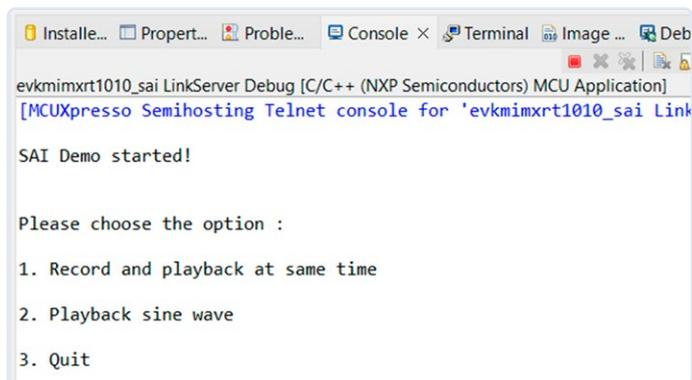

Figure 6: The menu.
- > You should see the menu displayed (**Figure 6**). Choose option 2 to hear the 250 Hz sine wave played for 5 seconds. You may find that the volume is very low.